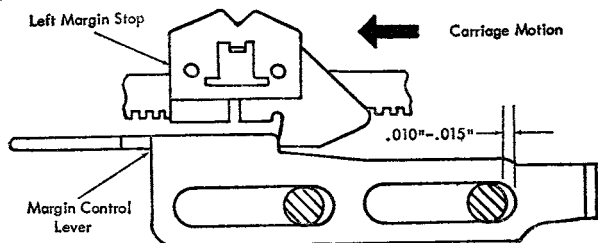

Figure 31. Overbank Adjustment
**14. OVERBANK.** Move the carriage from left to right and observe that the escapement pawl drops over an escapement-rack tooth when the margin-control lever is from .010" to .015" from its full right position (Figure 31).